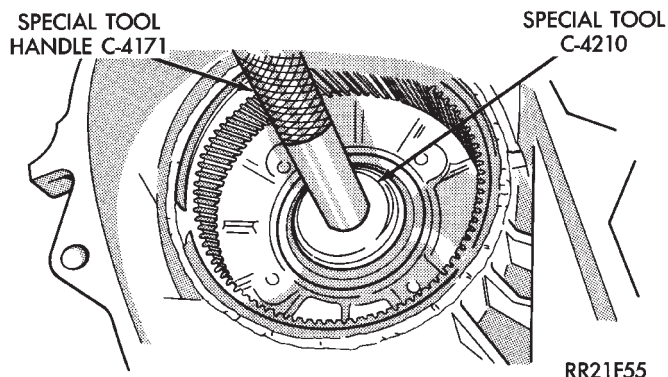
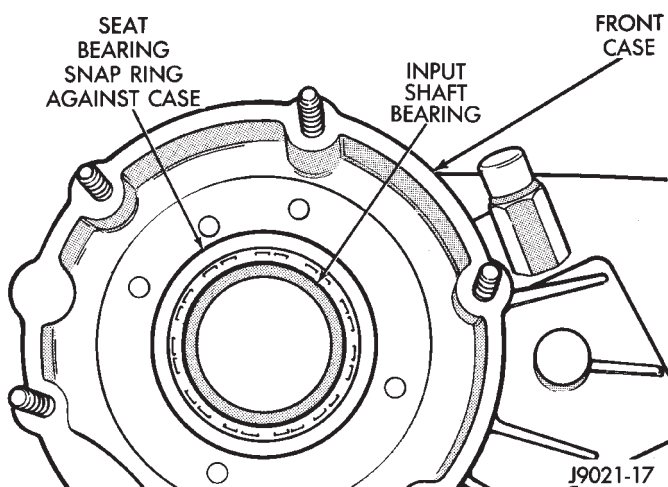

Fig. 31 Removing Input Gear Bearing
Fig. 32 Input Gear Bearing Installation
(7) Press input gear bearing from the front case with Tool Handle C-4171 and Installer Tool C-4210 (Fig. 31). Then turn front case over.
(8) Install snap ring on new input gear bearing and start bearing in case.
(9) Carefully press input gear bearing into case until bearing snap ring seats against case (Fig. 32).